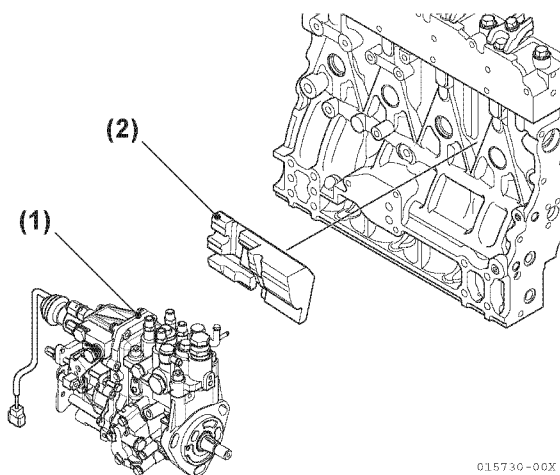
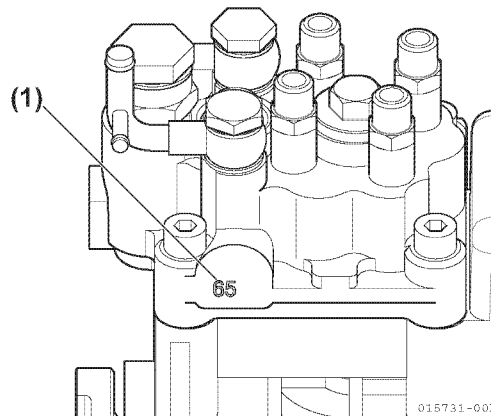

Figure 6-63
Figure 6-64
Note: It may be required that the intake manifold and fuel injection pump insulator (**Figure 6-63, (2)**) be removed to access the inner fuel injection pump (**Figure 6-63, (1)**) retaining nuts.
23. Remove the fuel injection pump (**Figure 6-63, (1)**). For purposes of future injection timing purposes, record the fuel injection pump timing index number located on the boss on the engine side (back) of the fuel injection pump (**Figure 6-64, (1)**). **NOTICE:** Do not rotate the crankshaft while the injection pump is removed.